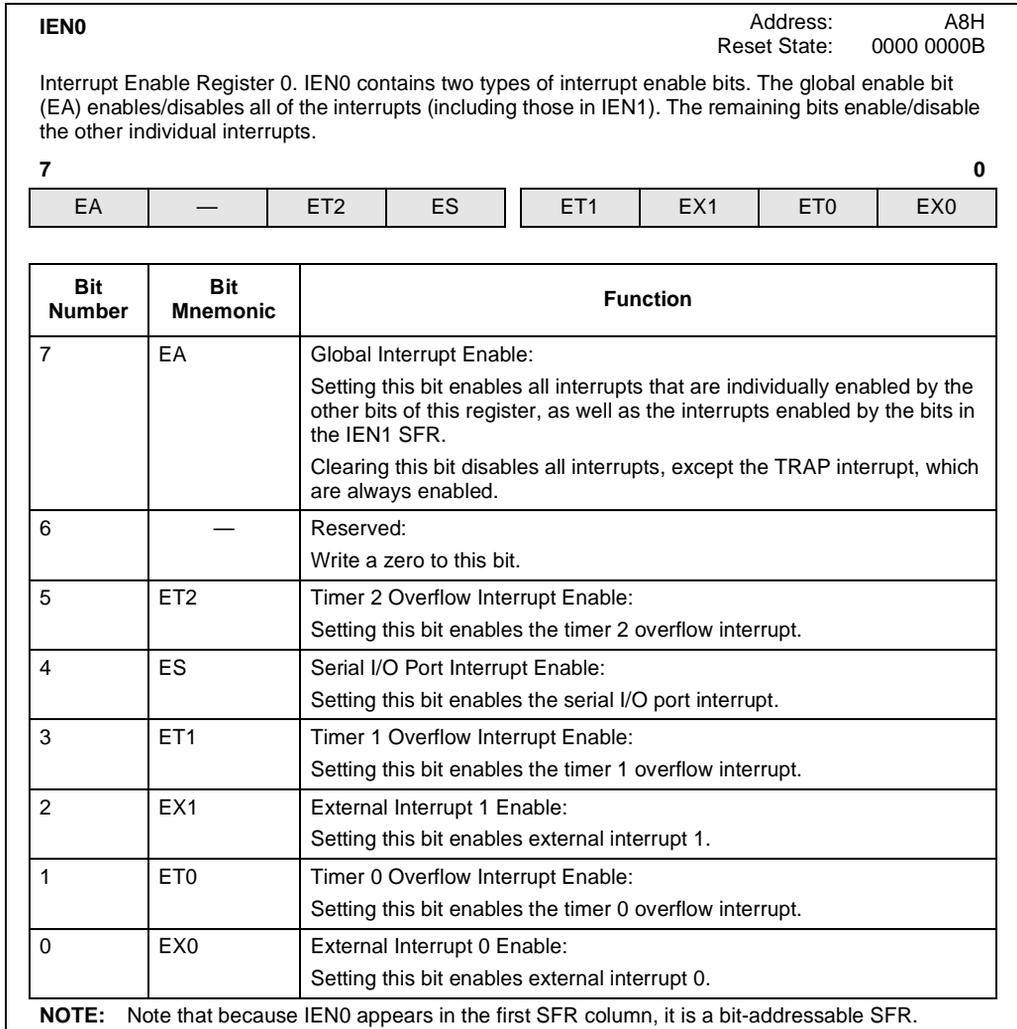
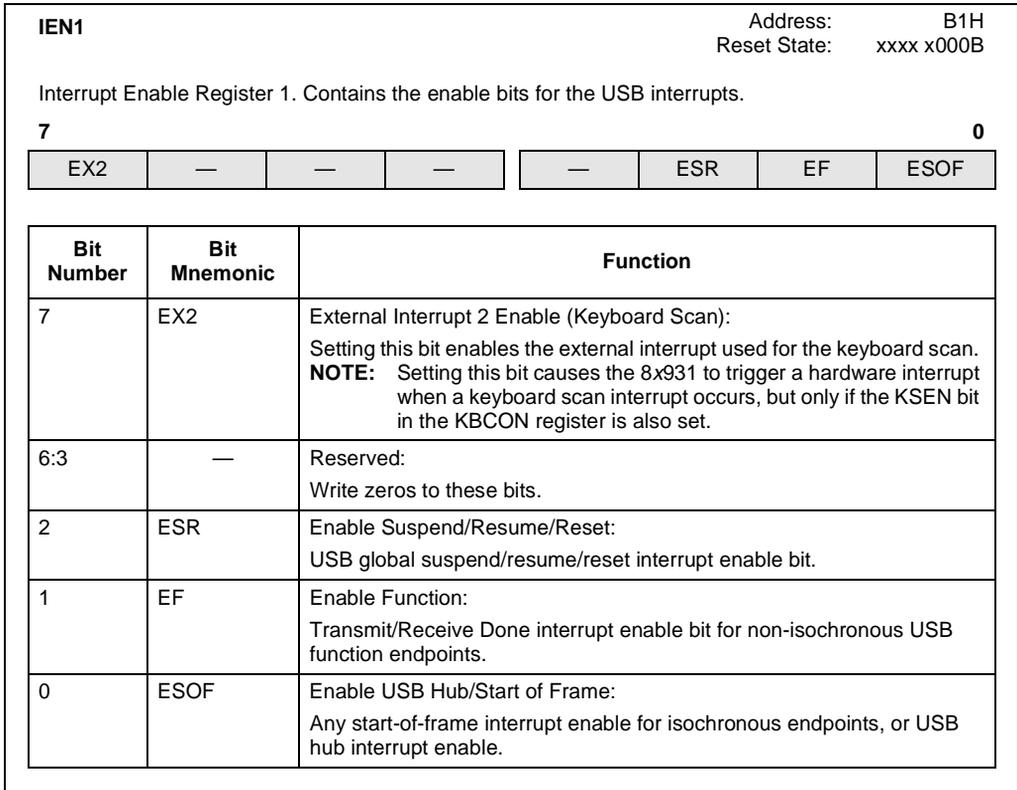

Figure 5-10. IEN0: USB Interrupt Enable Register 0
Figure 5-11. IEN1: USB Interrupt Enable Register
- The global enable bit must be set. That is, the EA bit must be set in the IEN0 register (Figure 5-10).
- The isochronous endpoint Any SOF interrupt must be enabled. That is, the ESOF bit must be set in the IEN1 register (Figure 5-11).
- a. the EA bit of IEN0 (Figure 5-10)
- b. the ESR bit of IEN1 (Figure 5-11)
Each interrupt source may be individually enabled or disabled by the appropriate interrupt enable bit in the IEN0 register at A8H (see Figure 5-10) or the IEN1 register at B1H (see Figure 5-11). Note IEN0 also contains a global disable bit (EA). If EA is set, interrupts are individually enabled or disabled by bits in IEN0 and IEN1. If EA is clear, all interrupts are disabled.